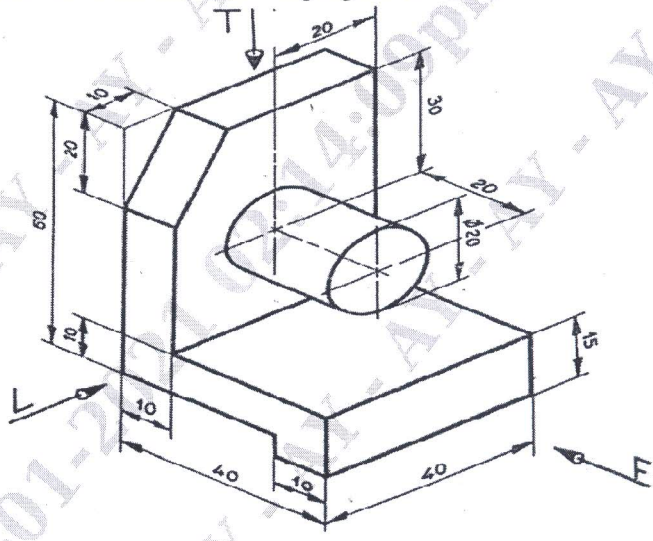

Figure 1
Q.No.2 Draw the orthogonal views for the following figure 1. **(15 Marks)**